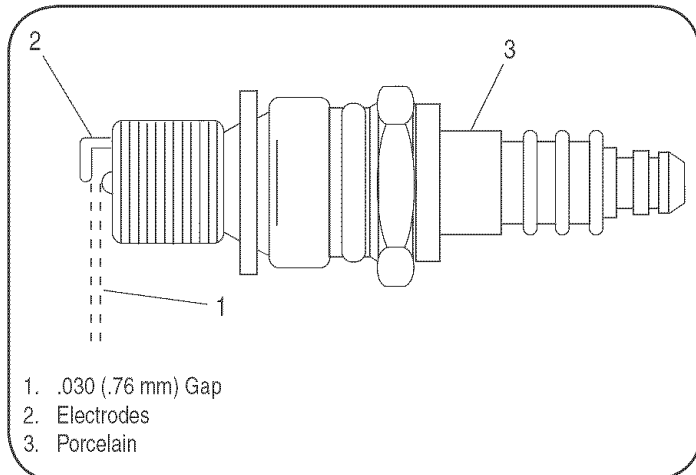

Figure 18
2. Remove and inspect the spark plug. Check gap, make sure it is set at .030. See Figure 18.